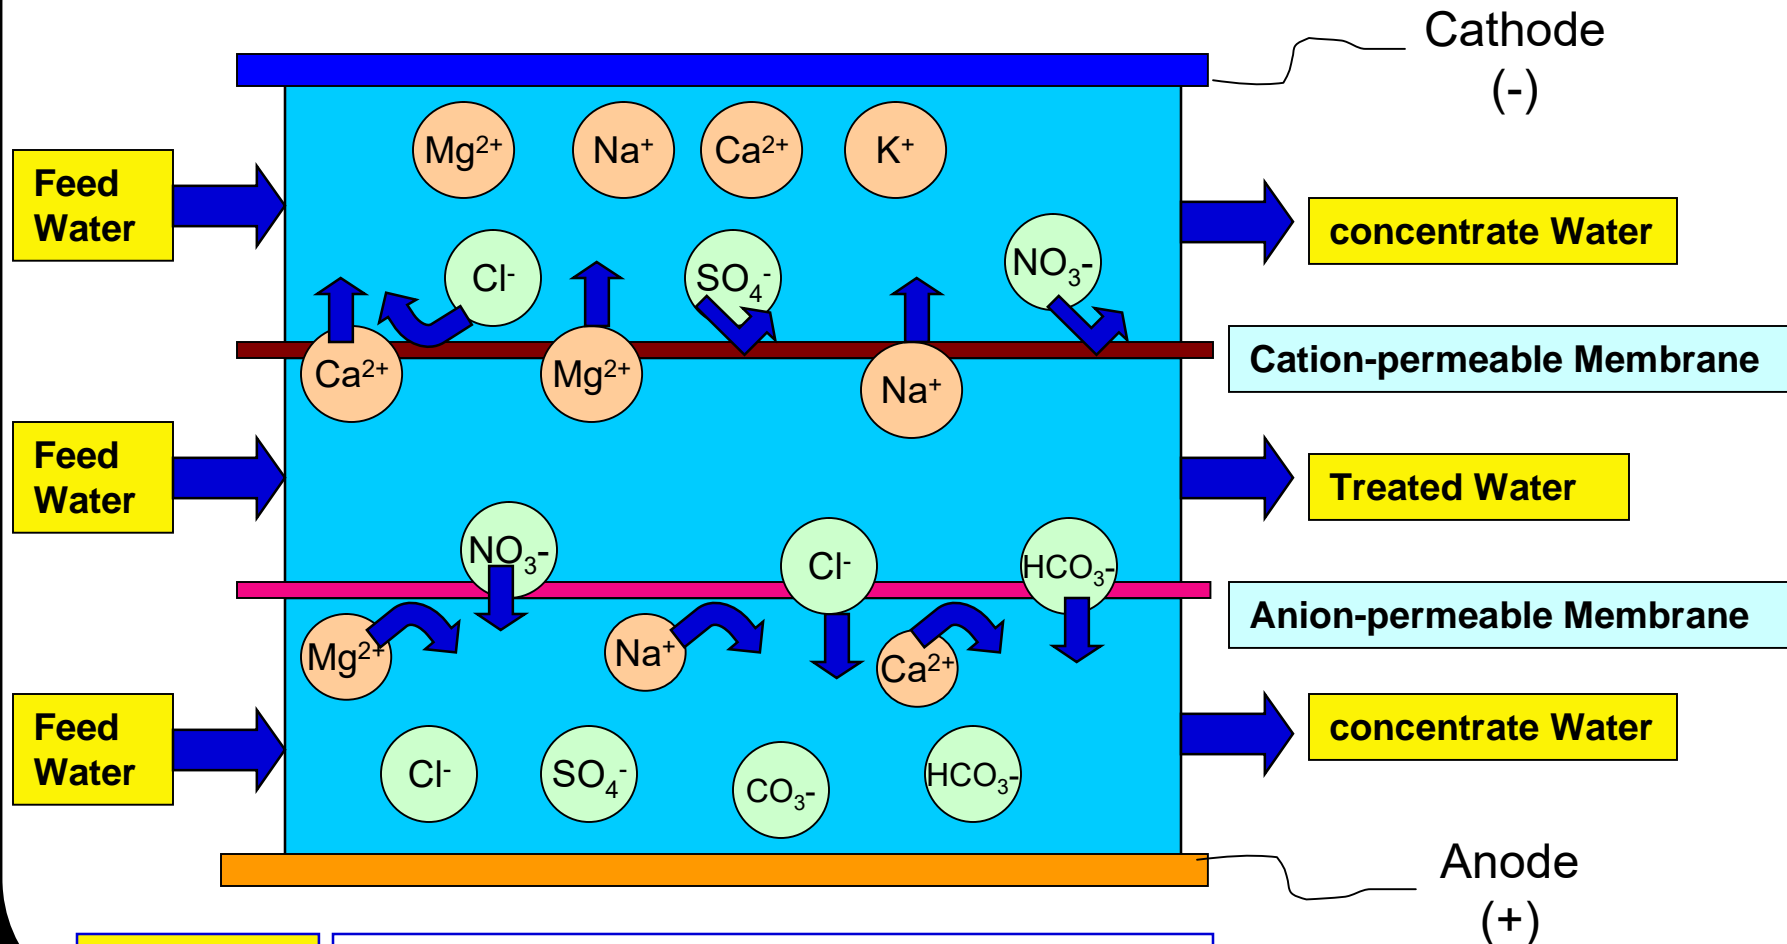

Fig. 5.6
- Figure 5.6 illustrates the configuration of a one cell stack electrodialysis unit.
- When a Direct Current (DC) power supply is connected to the electrodes, a direct current passes through water between the electrodes.